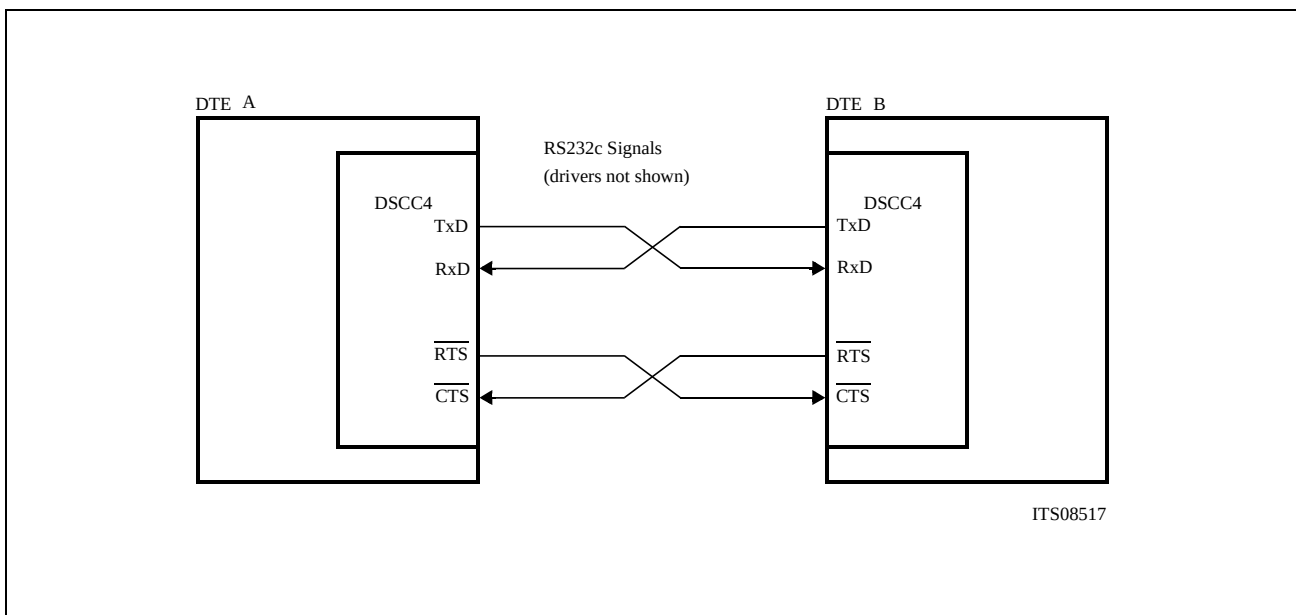
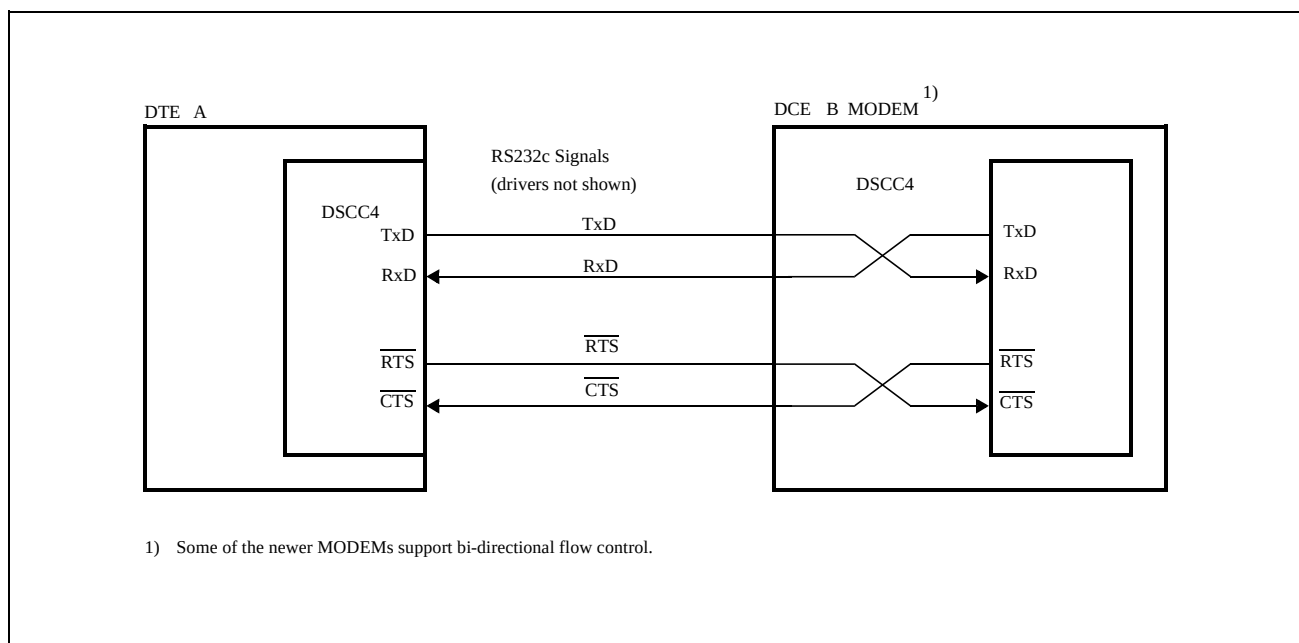

**Figure 72 Out-of-Band DTE-DTE Bi-directional Flow Control**
**Figure 73 Out-of-Band DTE-DCE Bi-directional Flow Control**
This flow control can be used between two DTEs as shown in **figure 72** and between a DTE and a DCE (MODEM) as shown in **figure 73** that supports this kind of bi-directional flow control.
**Figure 72** shows the connection between two SCC devices as DTEs. The  $\overline{\text{RTS}}$  of DTE-A (SCC) feeds the  $\overline{\text{CTS}}$  input of the second DTE-B (another SCC). For example while DTE-A is receiving data and its receive FIFO threshold is reached, the  $\overline{\text{RTS}}$  signal goes in-active 'HIGH' forcing the  $\overline{\text{CTS}}$  of DTE-B to become in-active indicating that transmission has to stop after finishing the current character. Both DTE devices should also be using the  $\overline{\text{CTS}}$  signal to flow control their transmitters. When the shadow receive FIFO in DTE-A is cleared its  $\overline{\text{RTS}}$  goes active 'LOW' and this signals the far end DTE-B to resume transmission. Data flow control from DTE,-B to DTE-A works in the same way.
**Figure 73** shows an SCC as a DTE connected to a DCE (MODEM equipment).